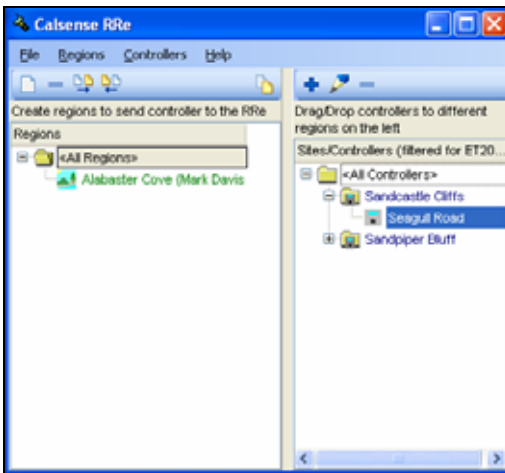

Figure 33.2.6
4. Highlight the site or controller that you want to assign to a region (Figure 33.2.6).